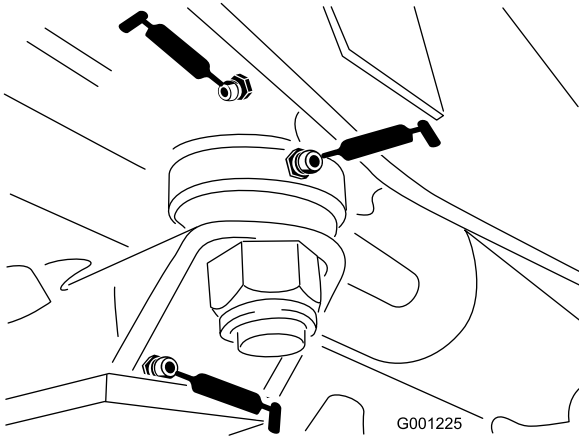

Figure 39
- Steering-plate bushings (Figure 39)
- Axle-pin bushing (Figure 39)